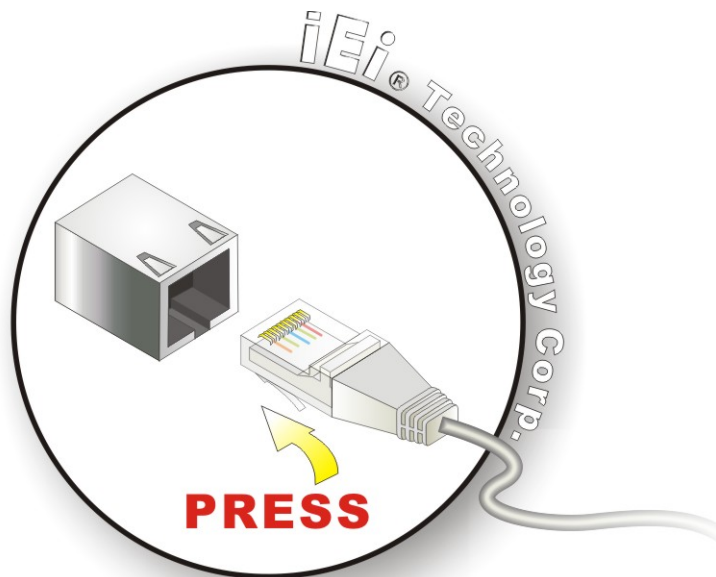

Figure 5-12: LAN Connection
Step 2: **Align the connectors.** Align the RJ-45 connector on the LAN cable with one of the RJ-45 connectors on the eKINO-945GSE. See **Figure 5-12**.